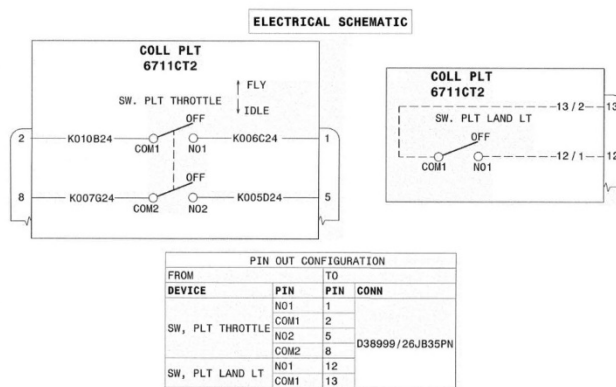

Figure 10 – Wiring diagram for the basic configuration
- Refer to Figure 10 for the wiring diagram of the basic configuration of the collective grip assembly. If the actual wiring diagram differs from Figure 10, record it. This will help you during assembly.
25. Refer to Figure 10 or to the wiring diagram that you recorded at step 7. Insert the wires contact pins of the collective grip cable (5) in the electrical plug connector (4).
31. Test the correct functioning of the grip: perform a continuity test of the wiring with a multimeter. Refer to schematic on Figure 10.